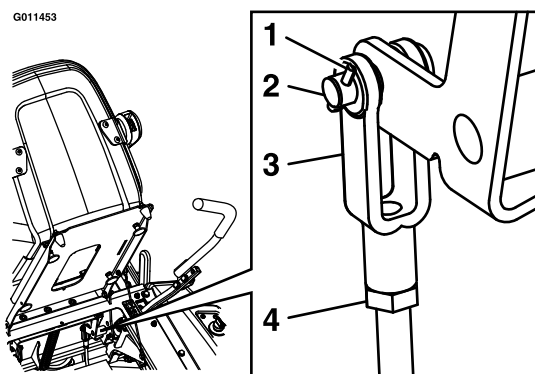

Figure 29
7. If adjustment is necessary, loosen the jam nut from the yoke on the side that needs adjustment. Remove the hairpin and clevis pin (see Figure 29).